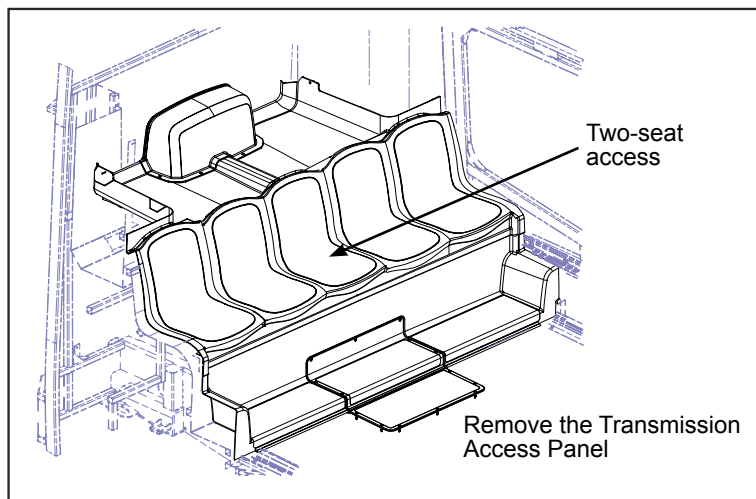

Figure 1 - Transmission Access Panel and Five Seat Location
- 1.1. Remove the transmission access panel located at the rear interior of the vehicle. Retain the hardware. See Figure 1.